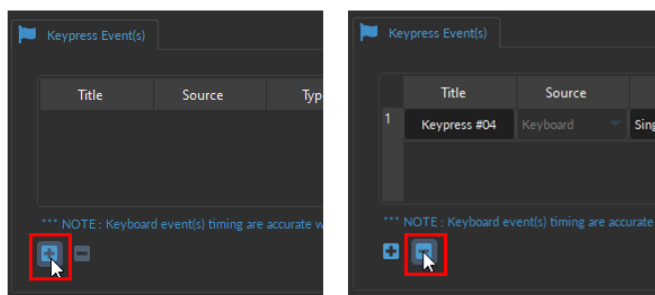

Figure 7.23: Adding and Removing Keypress Events
To add a new **KeyPress Event**, select the + sign at the bottom of the window (Fig. 7.23, left). To remove a Keypress, use the - button (Fig. 7.23, right).
- **NOTE:** Selecting the + button (without clicking the *Add* button or the *Close* button of the *Channel Configuration* window) will **automatically** add the Keypress Event channel at the **bottom** of the Acquisition View window, below the video feed (Fig.7.23).